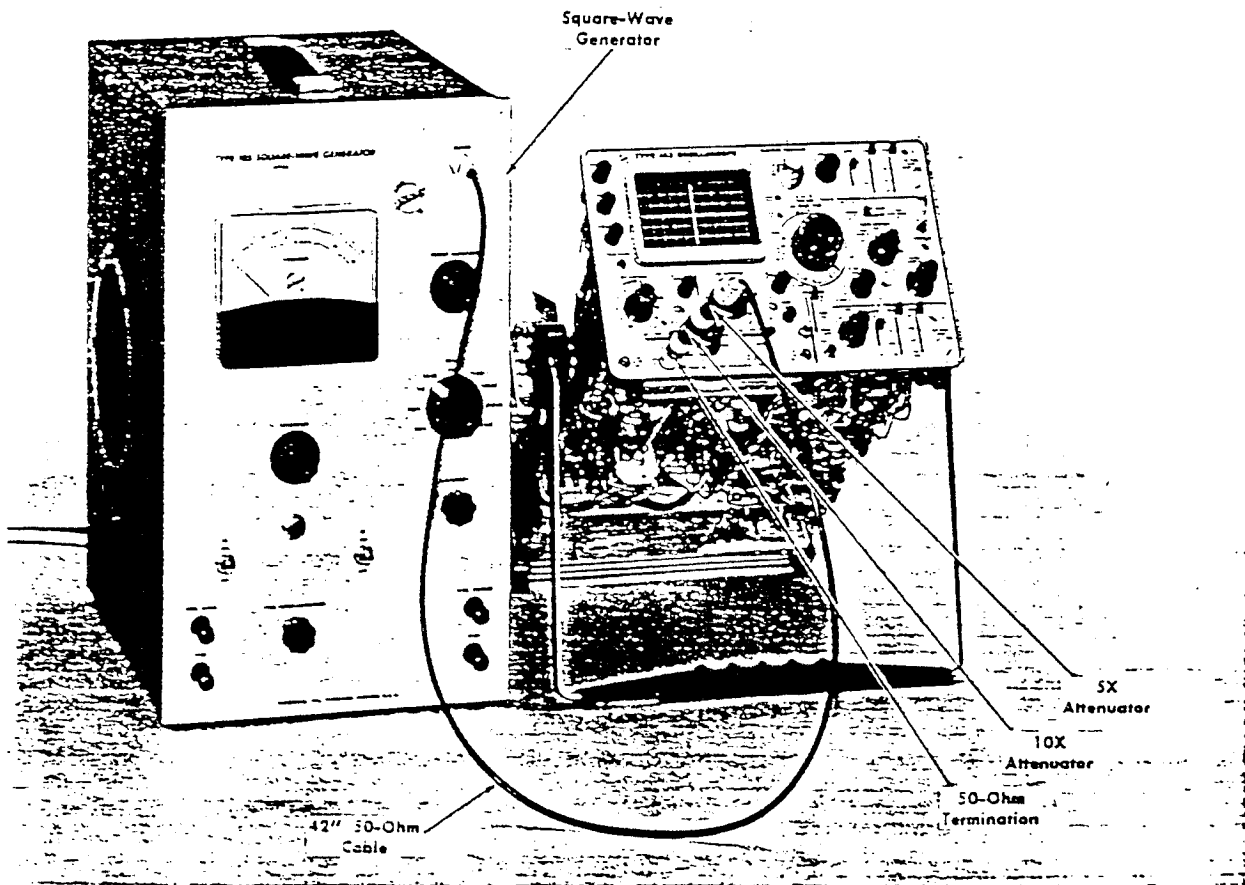

Fig. 6-26. Test equipment setup for step 23.
- a. Test equipment setup is shown in Fig. 6-26.